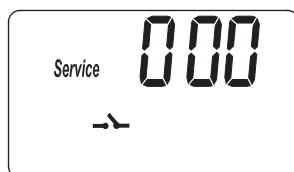
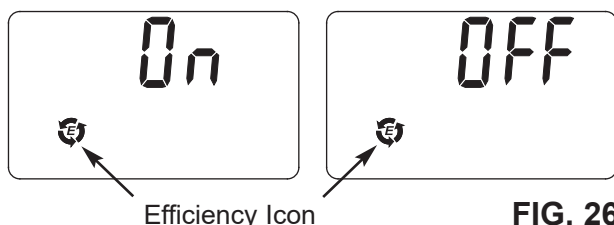
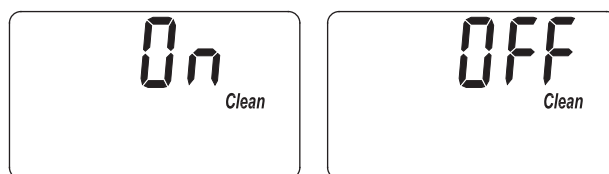

FIG. 25
FIG. 26
FIG. 27
1. Press and hold the PROGRAM button until the screen in Figure 25 is displayed. Once in this display, press the PROGRAM button once and one of the two displays in Figure 26 is shown.
1. Press and hold the PROGRAM button until the screen in Figure 25 is displayed. Once in this display, press the PROGRAM button twice and one of the two displays in Figure 27 is shown.
1. Press and hold the PROGRAM button until the screen in Figure 25 is displayed. Once in this display, press the PROGRAM button three times and the display in Figure 28 is shown.